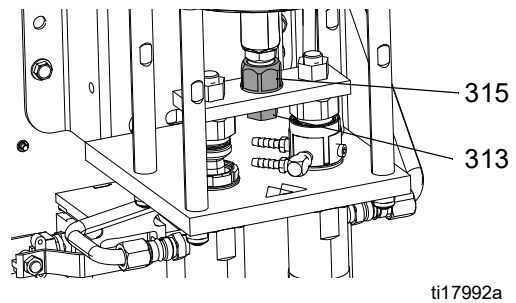

FIG. 1
7. Use a wrench to hold the piston rod in place and remove the adapter (315) with another wrench. See FIG. 1, page 26.
1. Apply medium blue thread lock on adapter (315). Use a wrench to hold the piston rod in place and install the adapter (315) with another wrench. Torque to 32-38 ft-lbs (43-51 N•m). See FIG. 1.